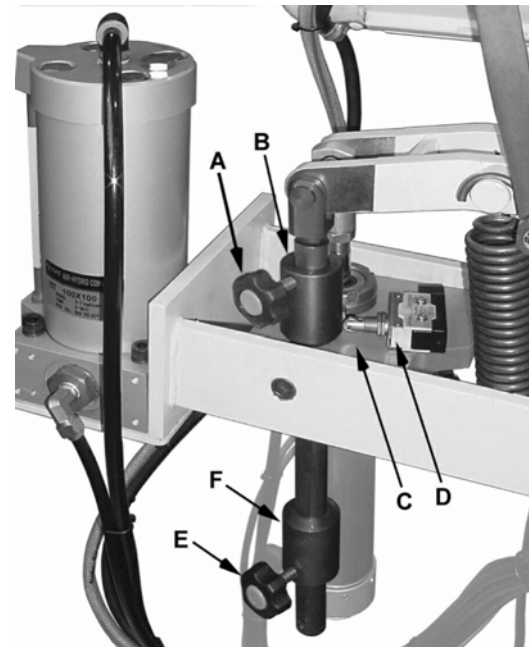

Figure 11
To set the trips (refer to Figure 11):
3. Loosen the lock knob (A) and slide the trip (B) down until it makes contact with the trip plate (C).
4. The trip plate fixes the position mechanically while the limit switch (D) signals the control system.
7. Loosen the *lock knob* (E) and slide the *trip* (E) up until it makes contact with the *trip plate* (not visible in Figure 11).